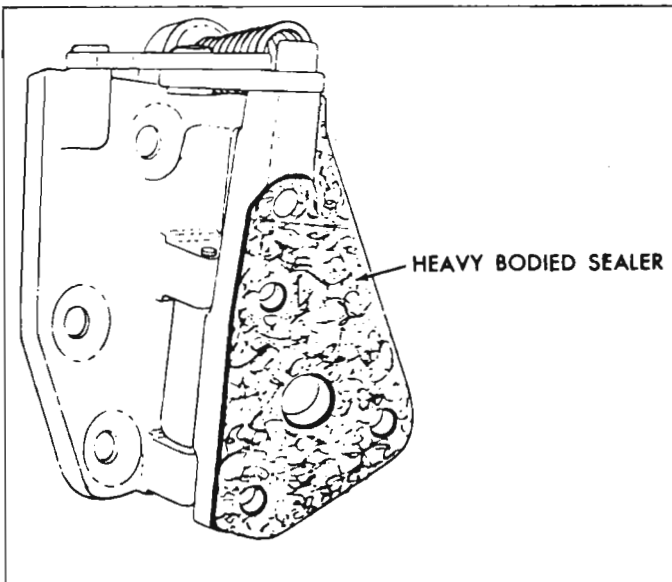

Fig. 10-48—Front Door Hinge Sealing at Body Hinge Pillar—Lower Hinge Shown, Upper Typical
1. As an anti-squeak precaution and to prevent entry of water into body at hinge attaching bolt locations before installation of door, coat attaching surfaces of hinges with heavy-bodied sealer as indicated in Figure 10-48.